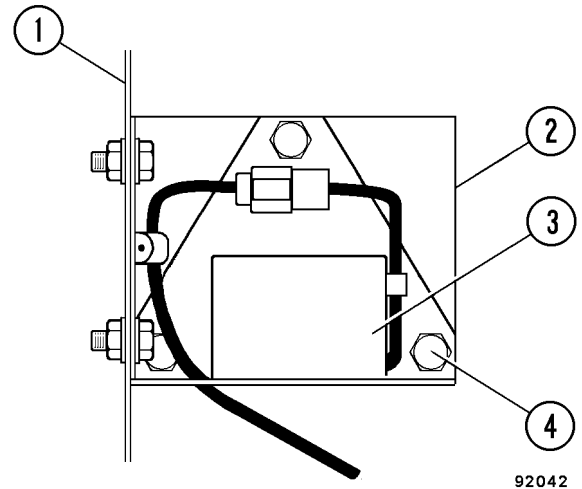

FIGURE 6-13. INCLINOMETER
2. Remove the three capscrews, nuts and lockwashers (4, Figure 6-13) and inclinometer (3).
1. Install inclinometer (3, Figure 6-13) with cap-screws, nuts and lockwashers (4).
2. Loosen the three Inclinometer mounting cap-screws (4, Figure 6-13) and rotate the Inclinometer until a voltage range of 2.6 ± 0.1 Volts can be measured (using a Volt/Ohm Meter) at pins 1 and 2 of the inclinometer electrical harness connector.
3. Tighten all cap-screws (4, Figure 6-13) to standard torque, after adjustment.